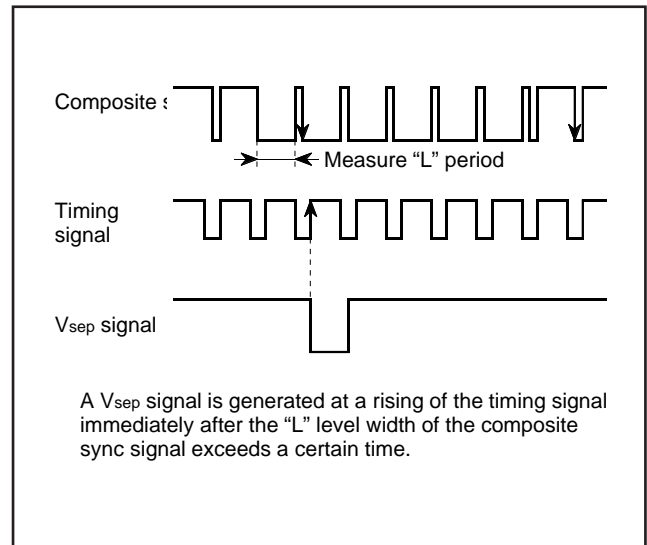

Fig. 12.10.6 Vsep Generating Timing (method 2)
- Method 2 The "L" level width of the composite sync signal is measured. If this width exceeds a certain time, it is detected whether a falling of the composite sync signal exits or not in the "L" level period of the timing signal immediately after this "L" level. If a falling exists, a Vsep signal is generated in synchronization with the rising of the timing signal (refer to Figure 12.10.6).
Figure 12.10.6 shows a Vsep generating timing. The timing signal shown in the figure is generated from the reference clock which the timing generating circuit outputs.